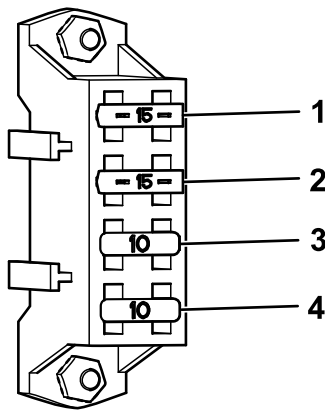

Figure 53
4. Replace any blown fuses (Figure 53).